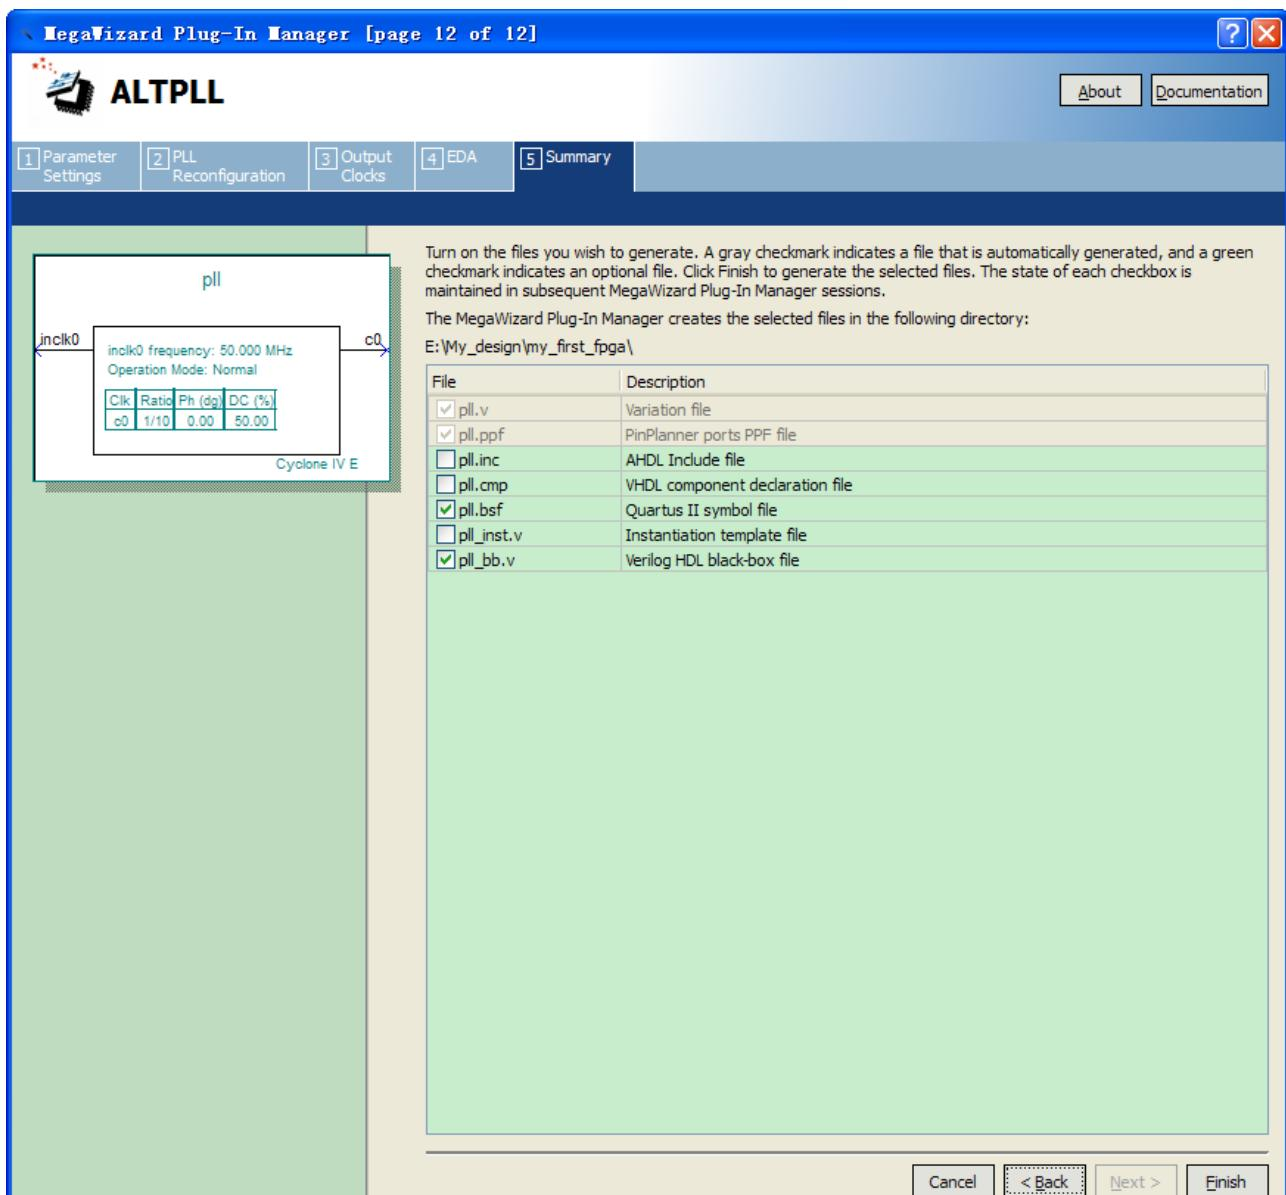

Figure 6-24 Wizard-Created Files
- The wizard displays a summary of the files it creates (see **Figure 6-24**). Select the **pll.bsf** option and click **Finish** again.